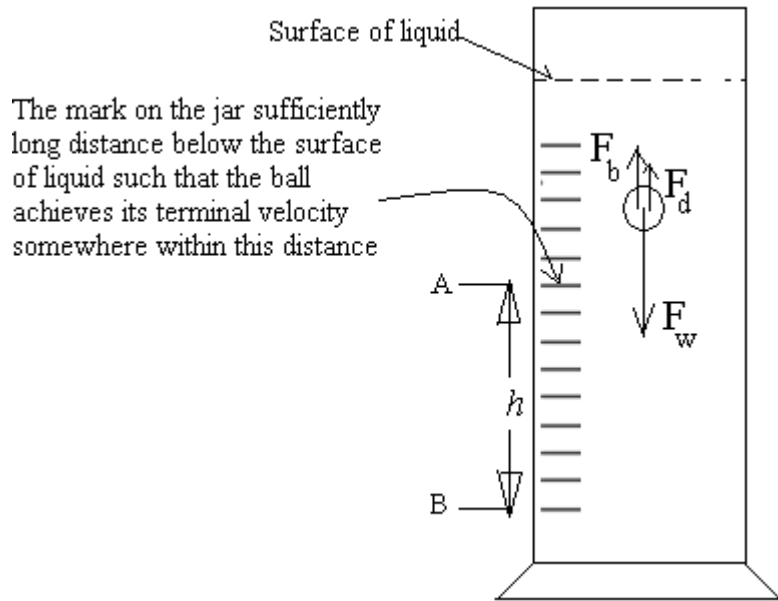

Figure 1: Arrangement for the experiment
2. Fix a mark, A (as shown in figure 1) on the jar sufficiently long distance below the surface of glycerin such that the ball achieves its terminal velocity while passing this mark (say, it is the mark specifying 600 ml). Fix another mark, B (as shown in figure 1) near the bottom of the jar (say, it is the mark specifying 100 ml). Measure the distance,  $h$  between two marks and write it down in the table 1 of section C of data sheet.